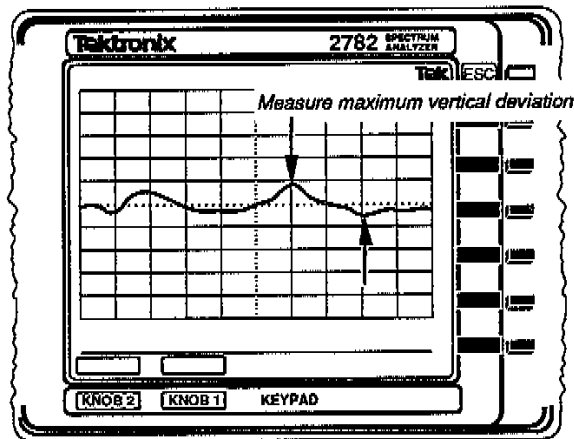

Figure 4-18. Residual FM check display.
3. The baseline rise of the 100 MHz reference signal at zero span is a horizontal line that should be displayed on the screen. Use the instrument **FREQUENCY** \uparrow and **FREQUENCY** \downarrow keys to center the baseline rise to approximately the middle of the screen (as shown in Figure 4-18).
12. Using Delta Markers, determine the area of the baseline rise that has the greatest vertical deviation over the total 10 horizontal divisions (as shown in Figure 4-18). Then press the computer M key to enter the measurement into the spreadsheet.